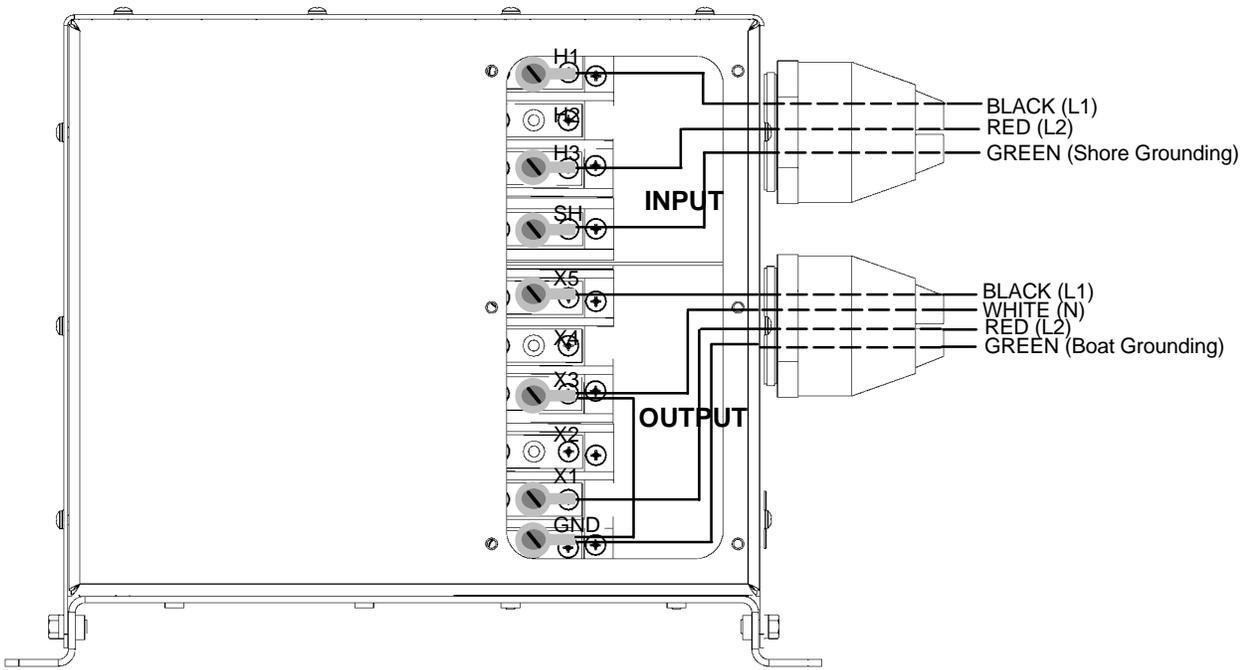
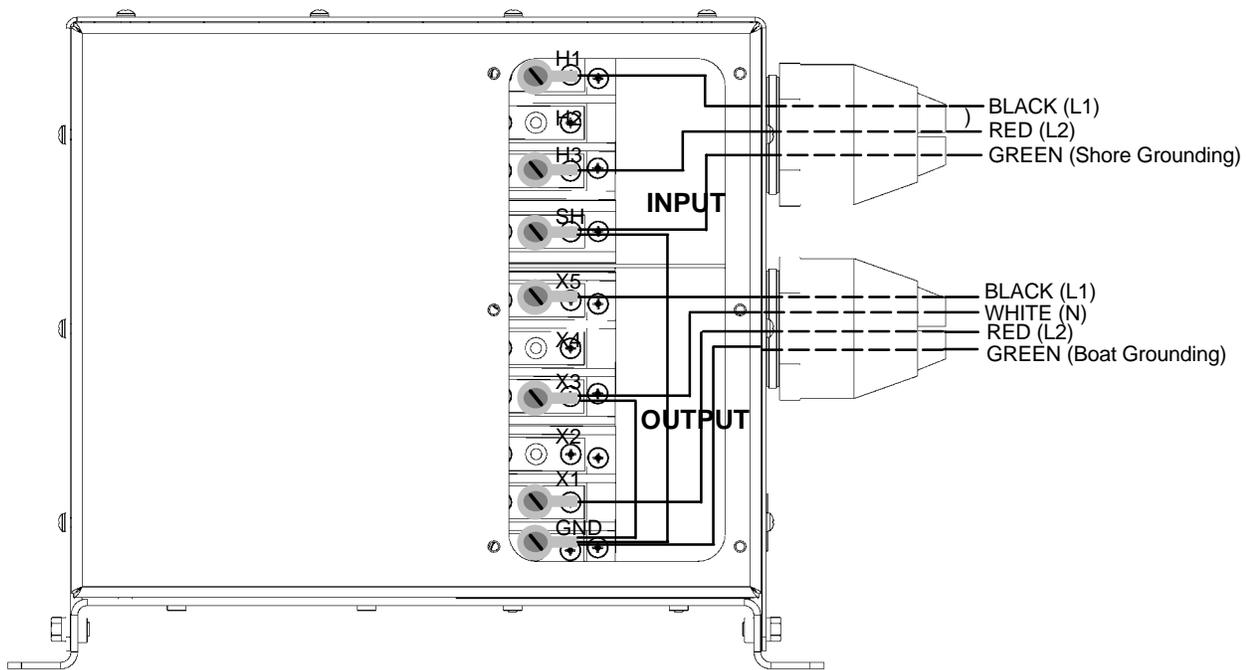

Figure 5. Typical Wiring as an Isolation Transformer (240 Volt Primary Input) – Method 1 (see Figure 1 for Electrical Diagram)
Figure 7. Typical Wiring as a Polarization Transformer (240 Volt Primary Input) – Method 3 (see Figure 3 for Electrical Diagram)
8.	Connect all wiring as shown in Figure 5, Figure 6, Figure 7, Figure 8 or Figure 9 based on the chosen wiring method.